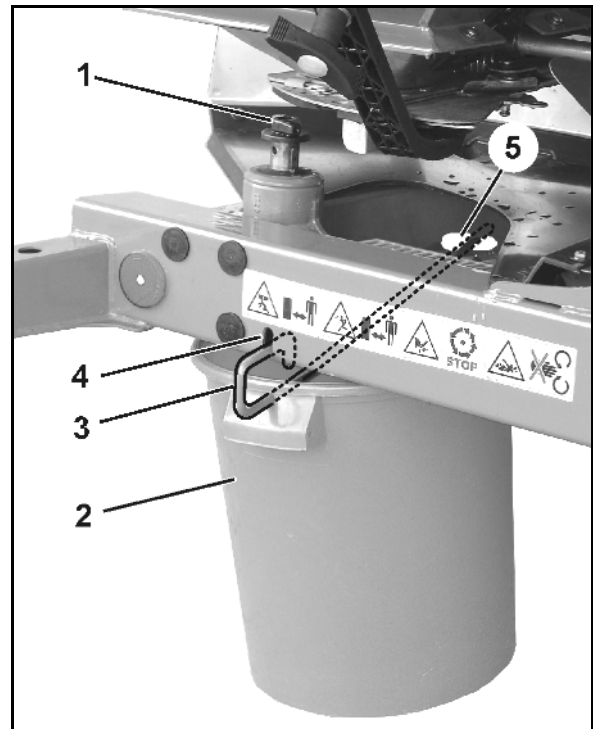

Fig. 66
Two different scales, designed so as to make it impossible to confuse them, are arranged on each spreading disc for precision setting of the individual spreading vane positions (Fig. 66/1 and Fig. 66/2).
- The shorter spreading vanes (Fig. 66/3) are assigned the scale (Fig. 66/1) with values from 5 to 28; the longer spreading vanes (Fig. 66/4) are assigned the scale (Fig. 66/2) with the values from 35 to 55.
- For the short spreading vane (Fig. 66/3), read off the set value on the read-off edge (Fig. 66/5).
- For the long spreading vane (Fig. 66/4), read off the set value on the read-off edge (Fig. 66/6).
- Swivelling the spreading vanes to a higher scale value (Fig. 66/1 or Fig. 66/2) increases the working width.